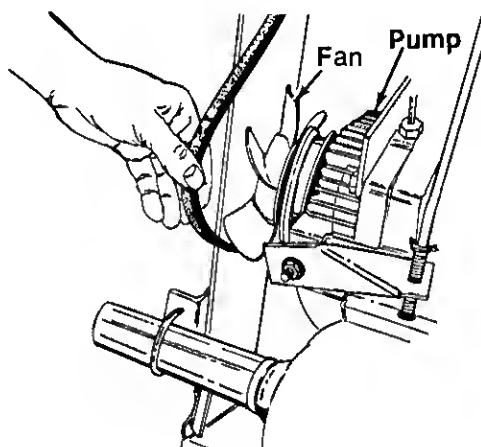

FIGURE 29.
6. Lift belt over pulley on hydrostatic pump. Turn fan at pump by hand to remove belt. See figure 29.